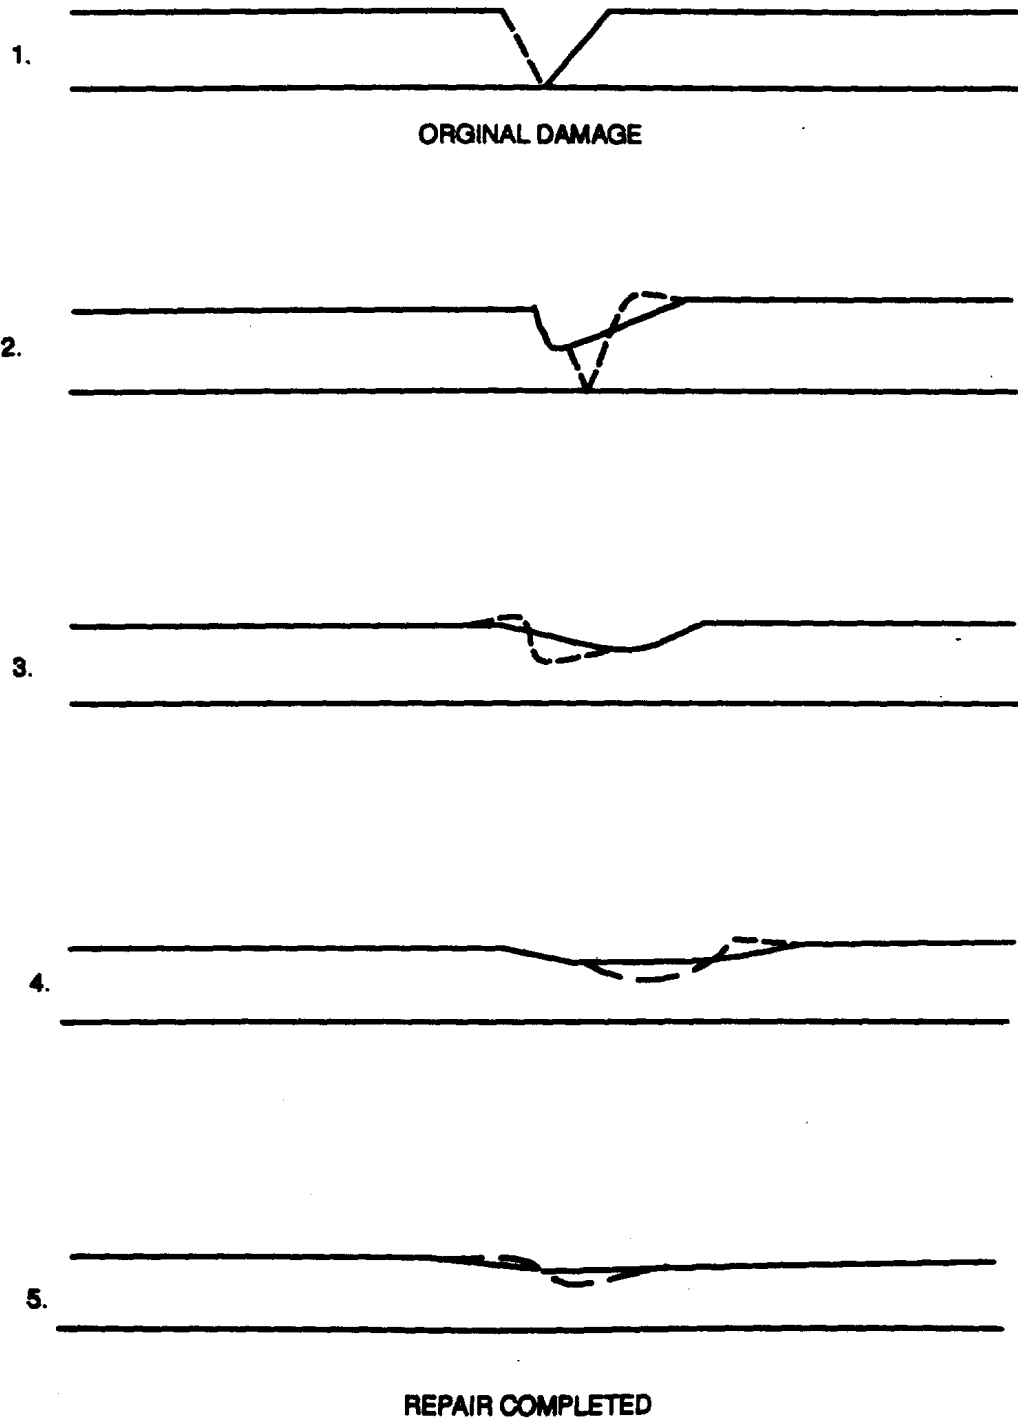

Figure 4-2. Repair of Outer Jacket Damage on Discharge Hose
- c. When outer jacket material melts, use putty knife to press softened material into damaged area until repair is completed as shown in Figure 4-2.